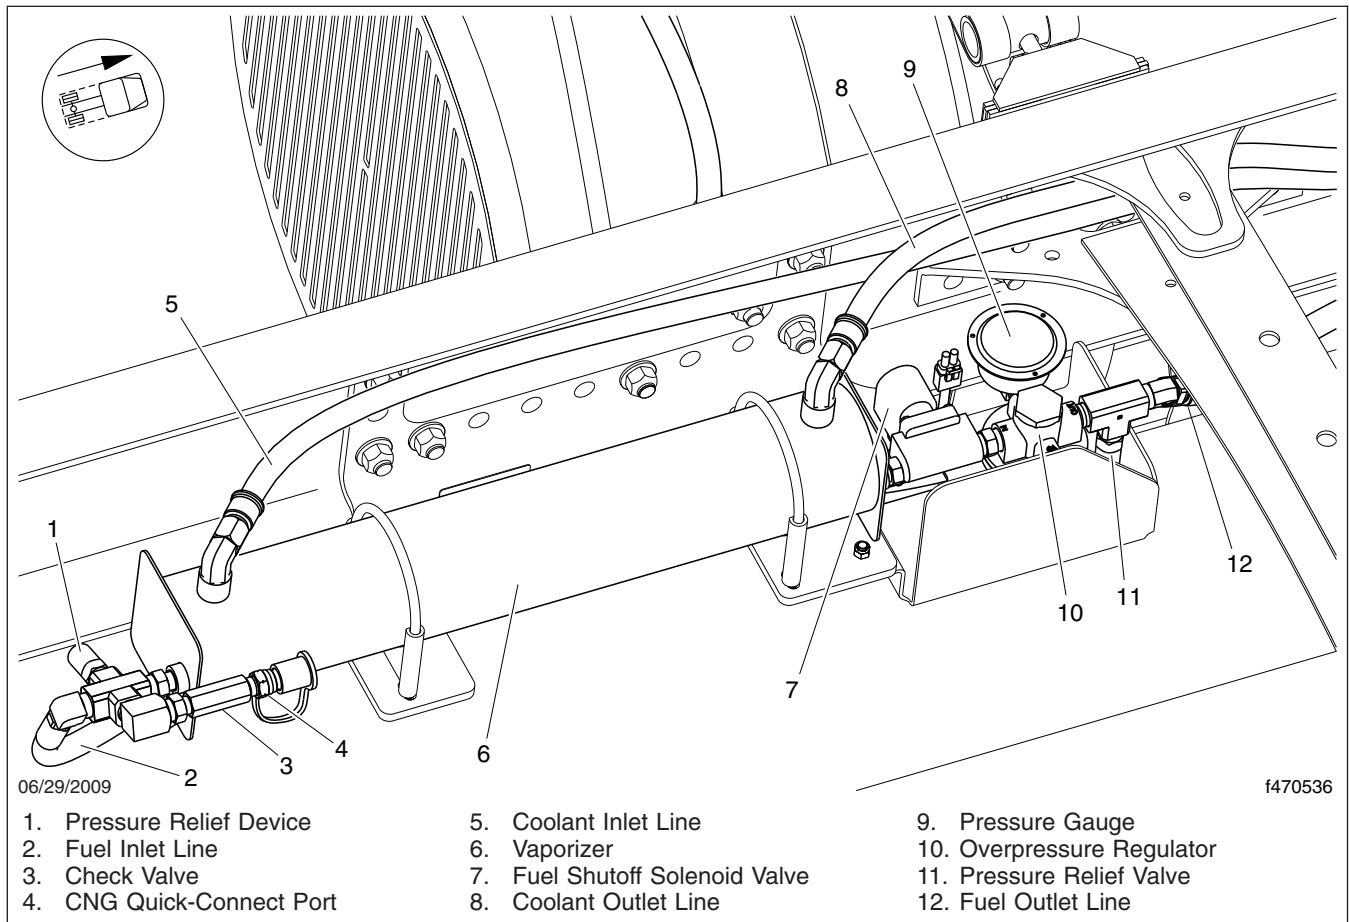

Fig. 11.11, LNG Vaporizer Assembly
8. Inspect the LNG vaporizer for signs of damage or leaks. See Fig. 11.11. Inspect the vaporizer mounting brackets for signs of looseness.